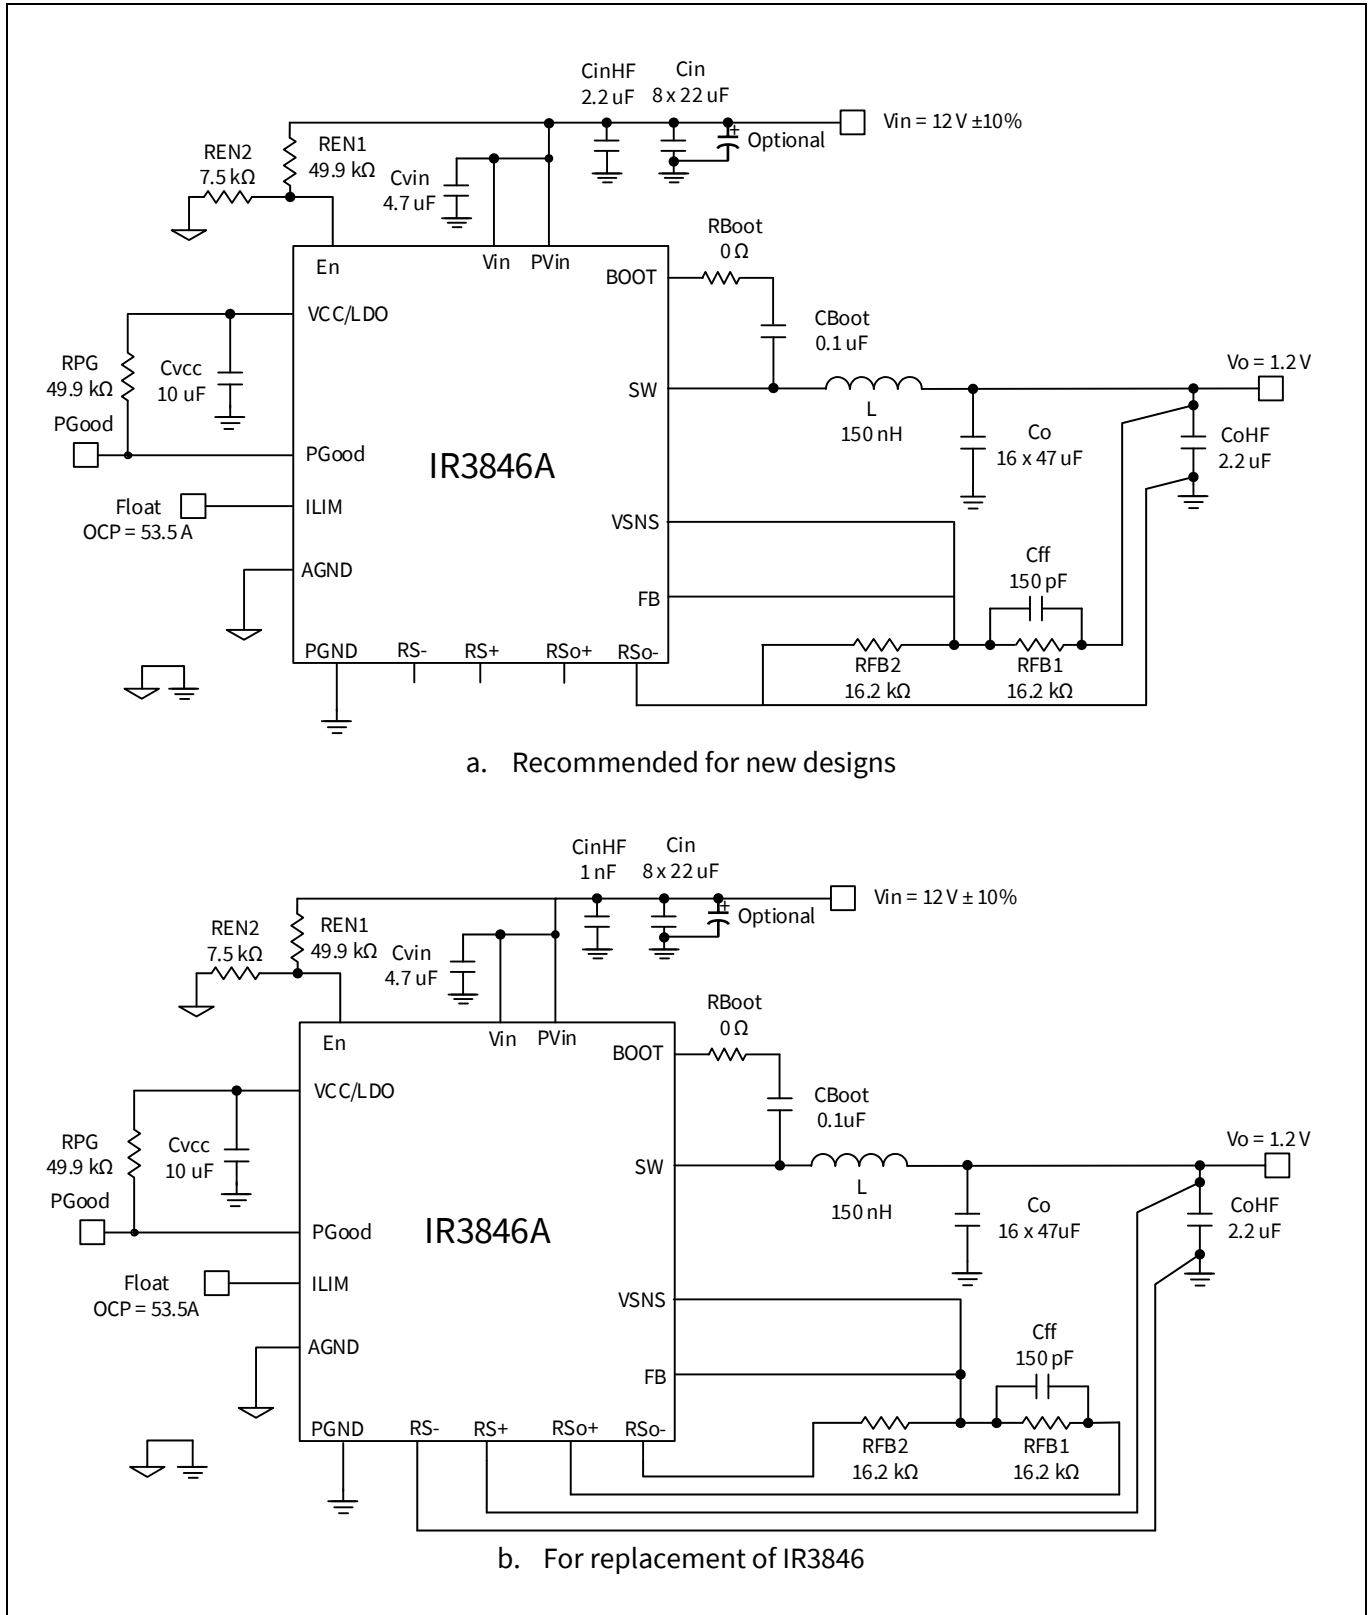

Figure 14 Application diagram of IR3846A. $P_{VIN} = 12V$, $V_o = 1.2V$, $I_o = 40A$, $f_{sw} = 600kHz$.
In this section, an example is used to demonstrate how to design a buck regulator with the IR3846A. The application circuit is shown in Figure 14. The design specifications are given below:
- If it is required to sense the output voltage at a remote location, pseudo remote sensing can be implemented as follows, as illustrated in Figure 14.